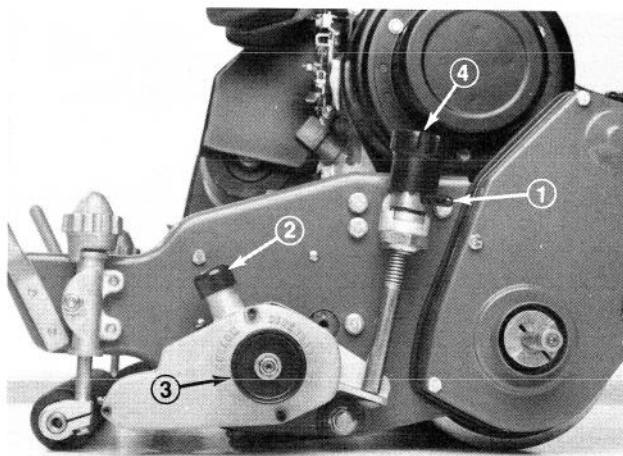

Figure 16
2. Hold the clutch snubber down and disengage the clutch by turning the clutch knob clockwise (Fig. 16). Use the quick up levers (both sides) to lower the grooming reel into the grooming position (Fig. 16).
3. On one end of groomer shaft, measure the distance from the lowest tip of a groomer blade to work surface (Fig. 17). Lift and turn micro adjustment knob (Fig. 16) to raise or lower blade tip. Each notch on the micro adjustment knob is approximately equal to .007 inch of groomer depth.